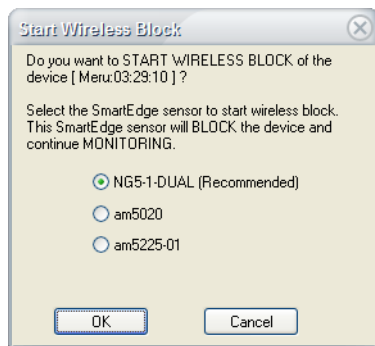

Figure 8-6: Start Wireless Blocking options
- 2) In the Rogue (ALL) section, click **Block**. Select the desired method of wireless blocking. See Figure 8-6.